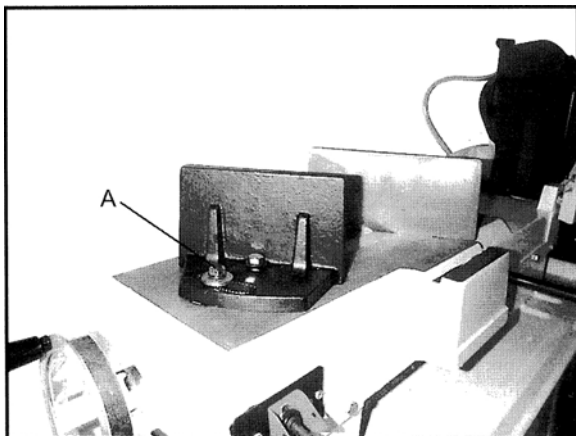

Figure 13
2. Position the vise and re-install as pictured in Figure 13. Pay particular attention to the bolt hole location.
- Adjust the movable vise parallel to the fixed vise by loosening bolt (A, Figure 13), adjusting to parallel, and tightening bolt.